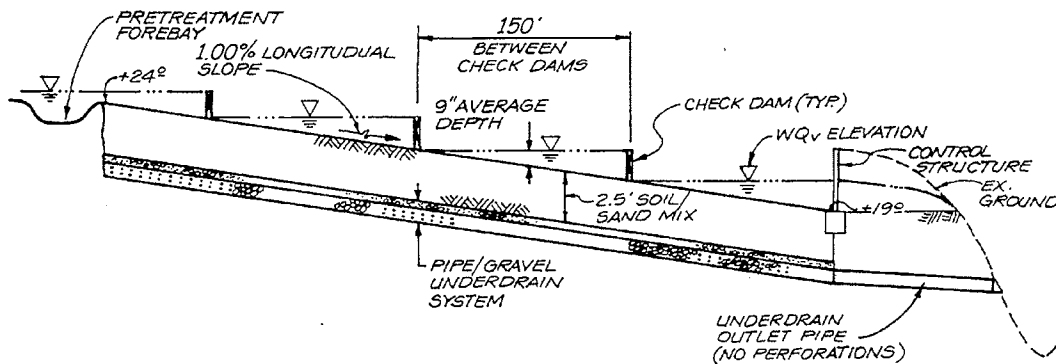

Figure 6 Profile of Northwest Fork Dry Swale
Required: bottom width, depth, length, and slope necessary to store WQv with less than 18" of ponding (see Figure 6 for representative site plan).
Step 5. Compute number of check dams (or similar structure) required to detain  $WQ_v$  (see Figure 6)
In order to ensure that the swale will draw down within 24 hours, the planting soil will need to pass a maximum rate of 1.5' in 24 hours ( $k = 1.5'$  per day). Provide 6" perforated underdrain pipe and gravel system below soil bed (see Figure 6)